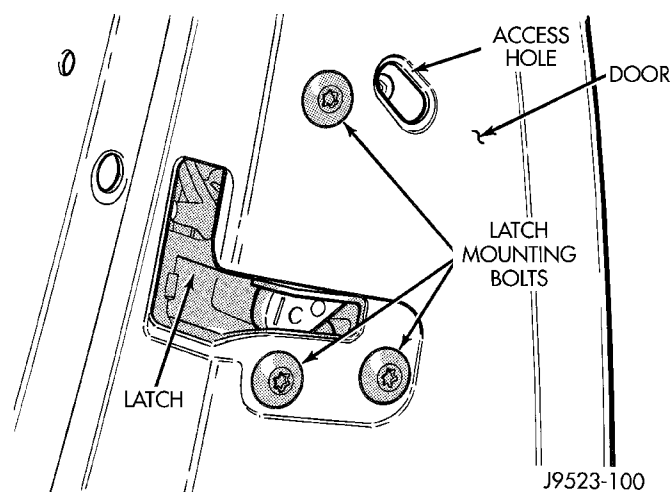

Fig. 78 Door Latch Adjustment
- (1) Locate access hole (Fig. 78).
- (2) Insert a 5/32-inch hex-wrench through hole and into adjustment screw. Loosen screw.
- (3) Operate outside handle button several times to release any restriction because of mis-alignment.
- (4) Tighten adjustment screw to 3 N·m (30 in-lbs) torque.
- (5) Test handle button and lock cylinder for proper operation.